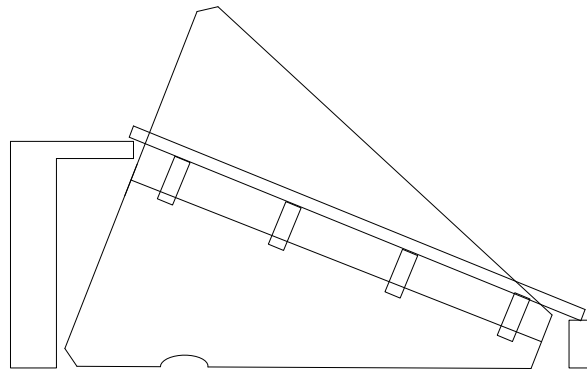

Figure 2- shimming of weldment to center of gravity
7. Shim the weldment until the height of it is consistent to have the pads at the center of mass to within the tolerance listed in table 1. See figure 2.